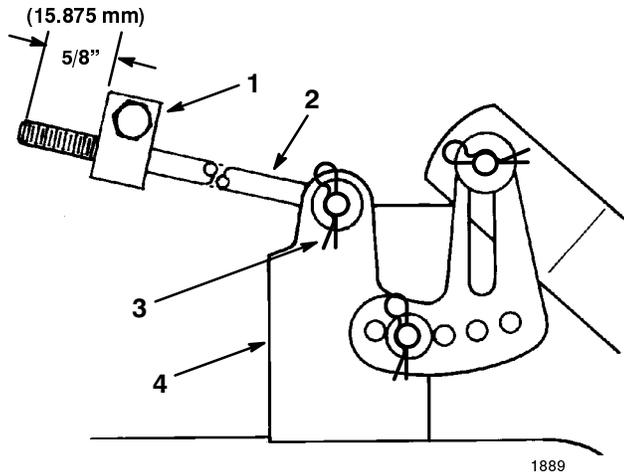

Figure 50
- Measure the length of the rod extending out the front of the adjusting block on the sides of the chassis (Fig. 50). If the rod length is not 5/8" (15.9 mm), remove the hair pin cotter and washer from the end of the rod (Fig. 50), and turn the rod until the 5/8" (15.9 mm) dimension is obtained. Then install the end of the rod into the hole in the mower mount and secure in place with washer and hair pin cotter. Repeat this procedure on the opposite side of the mower.